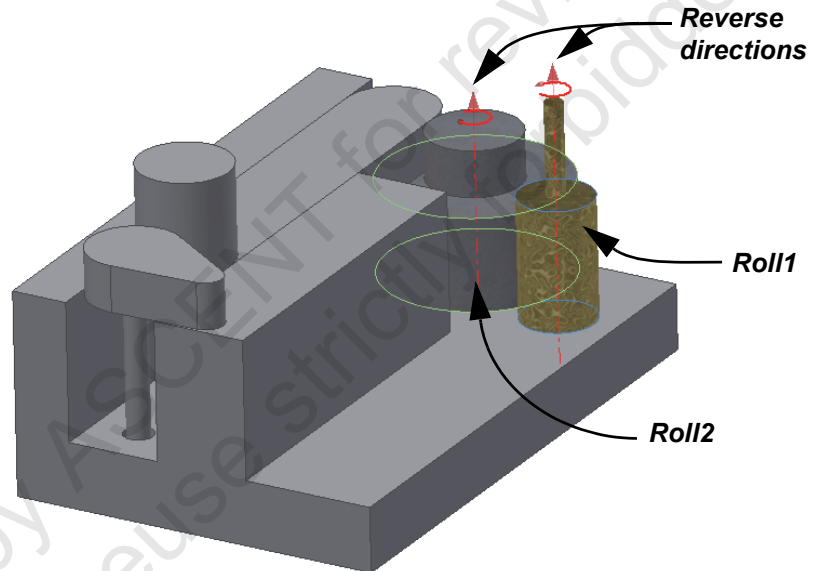

Figure 1–19
8. Apply a  (Rotation-Translation) motion constraint between **Roll2** and **Sliderarm**. Select **Roll2** first and the **Sliderarm** edge second, as shown in Figure 1–20. Set the motion to rotate in the Forward direction by clicking . Click **OK**.